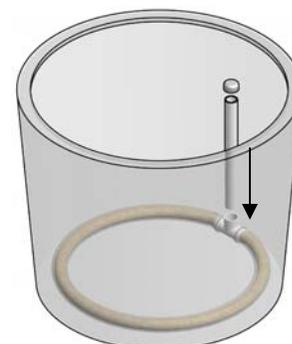

Fig. 1— DR1
2. Set the the pre-assembled base (A) into the pot. It will typically go at the very bottom of the planter.
3. **DR1**— Measure and cut the drain pipe (B) so that the bottom of the cap is above the the soil level (figure 1). Glue the pipe into the base using ABS glue.